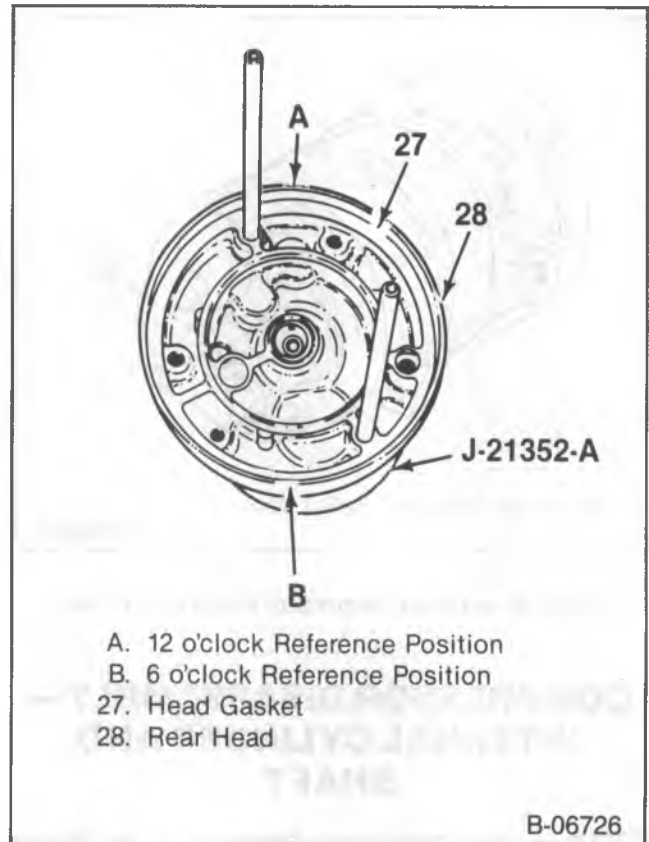
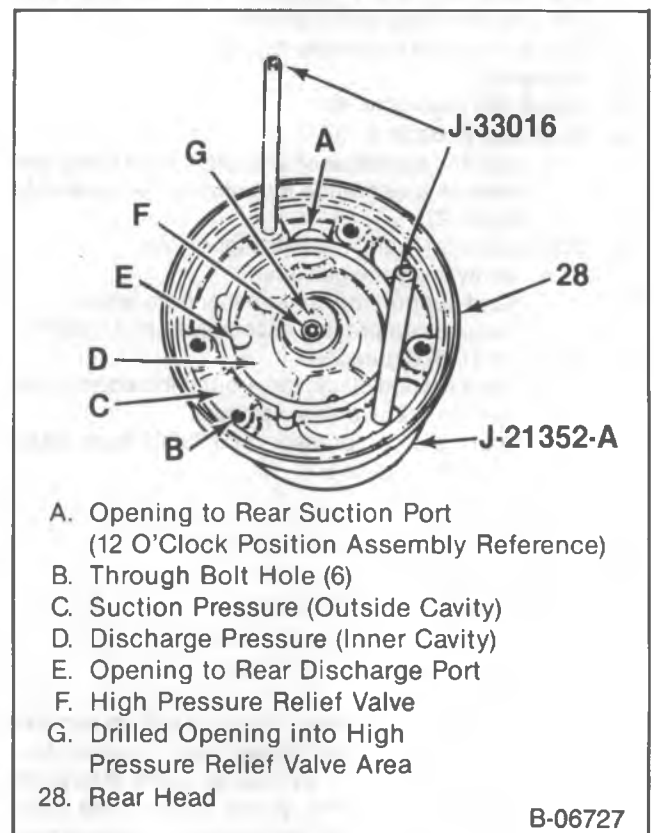
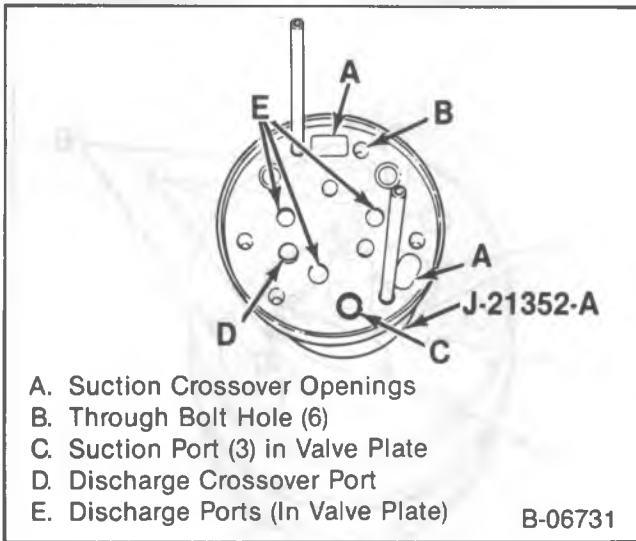

Figure 31 — Positioning the J 33016 Guide Pins
Figure 32 — Installing the Rear Head Gasket
Figure 33 — Installing the Rear Valve Plate
1. Rear head (28) onto J 21352-A.
- Install J 33016 guide pins small diameter ends into the through bolt holes (figure 31).
2. Head gasket (27).
- Over guide pins into head (28) (figure 32).
- Locate the head gasket (27) to prevent the discharge valve reed retainer on the rear valve plate (26) from hitting the internal segment of the head gasket (27) (figure 32).
3. Valve plate (26).
- Over the guide pins into position (figure 33).